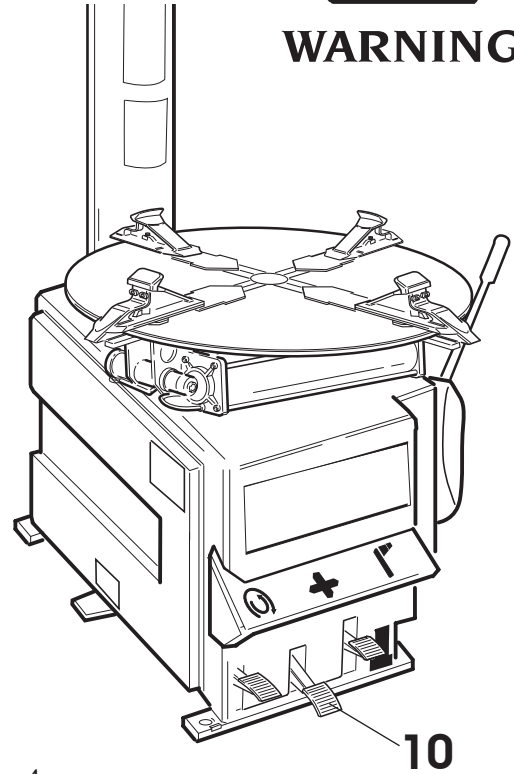

Fig. 4
Before making the electrical and pneumatic hook-ups check to make sure that the machine configuration is as illustrated in Figure 4, with pedal (10) in the "fully depressed" position.